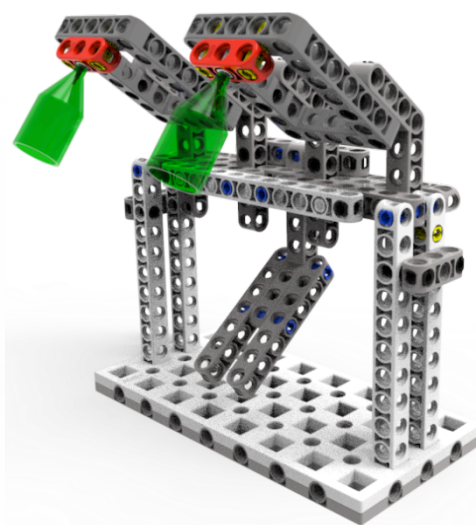

Figure 3-4-3 Finished Status 2
3.4.4 Robot makes the collected information attached to the magnet until the end of this round, the Finished Status 2 (as shown in Figure 3-4-3, 20 points per *information*).